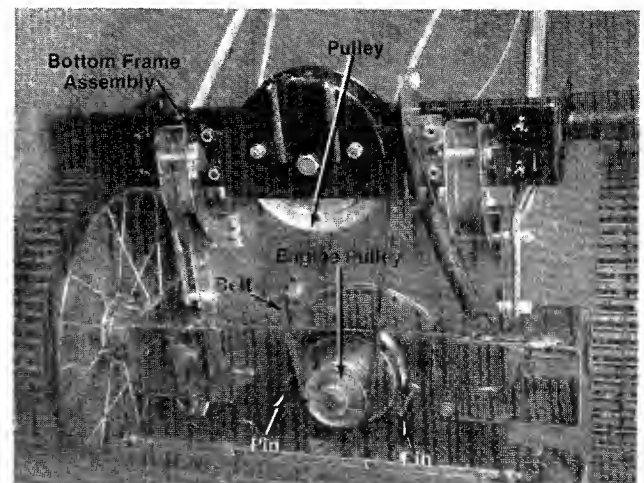

FIGURE 23
6. Remove the drive belt from the engine pulley. (See figure 23.)
The drive belt replacement may be made as follows: (See figure 23.)